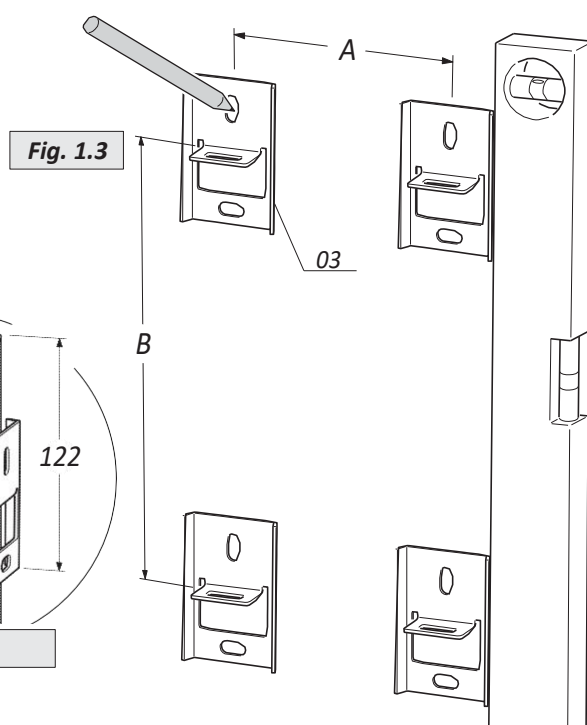

Fig. 1.3
Once you have identified the place of installation of the radiator, mark the fixing holes for the supports (03), considering the dimension specified in fig.1.2, and placing them at distance A depending on the number of elements (see Tab. 1). Maximum height B measured on the radiator see fig. 1.3.